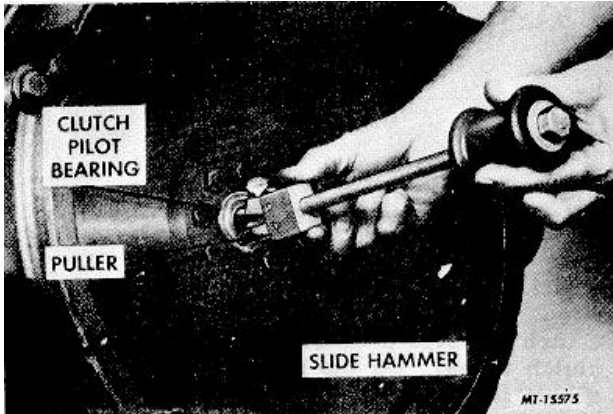

Fig. 49 Removing Clutch Pilot Bearing
41. Using a slide hammer and puller SE-1746, remove clutch pilot bearing from flywheel (Figure 49).